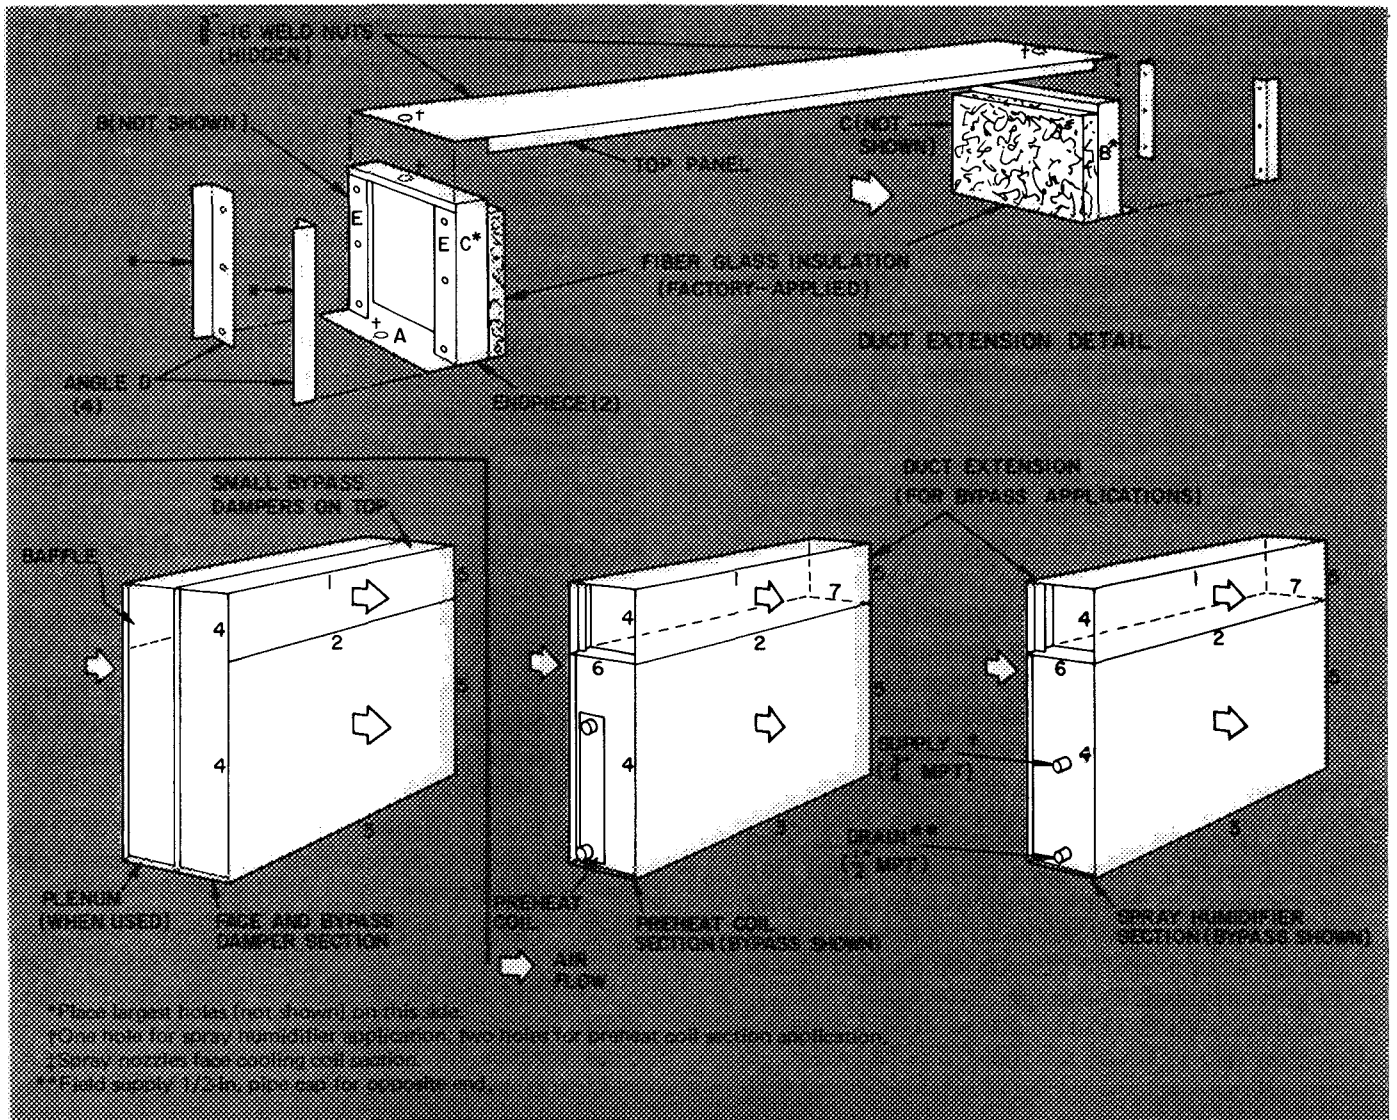

Fig. 8 – Assembly of Accessory Face and Bypass Damper Section; Preheat Coil Section and/or Spray Humidifier Section with and without Bypass – (Sizes 070-120)
- (1) Line up flange 11 and matching surface.
- (2) Drill ten engagement holes in matching surface with a no. 2 drill.
- (3) Fasten flange 11 to matching surface with ten 1/4-20 x 1/2-in. self-tapping screws.
- FACE AND BYPASS DAMPER SECTION; PRE-HEAT COIL SECTION AND/OR SPRAY HUMIDIFIER SECTION WITH AND WITHOUT BYPASS (Sizes 070 thru 120) – Refer to Fig. 8.